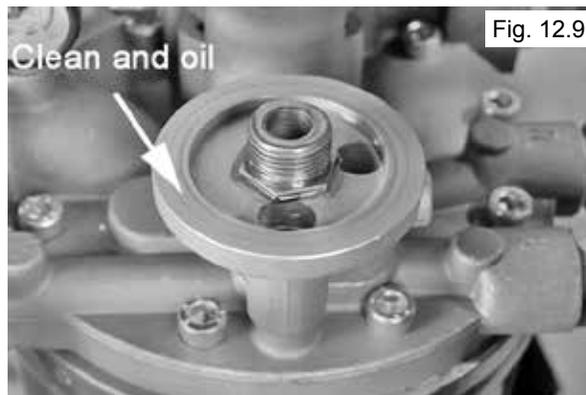

Fig. 12.9
3. Clean the threads and seat and then apply a light layer of clean oil to the face of the Oil Filter seat. (See Fig. 12.9)